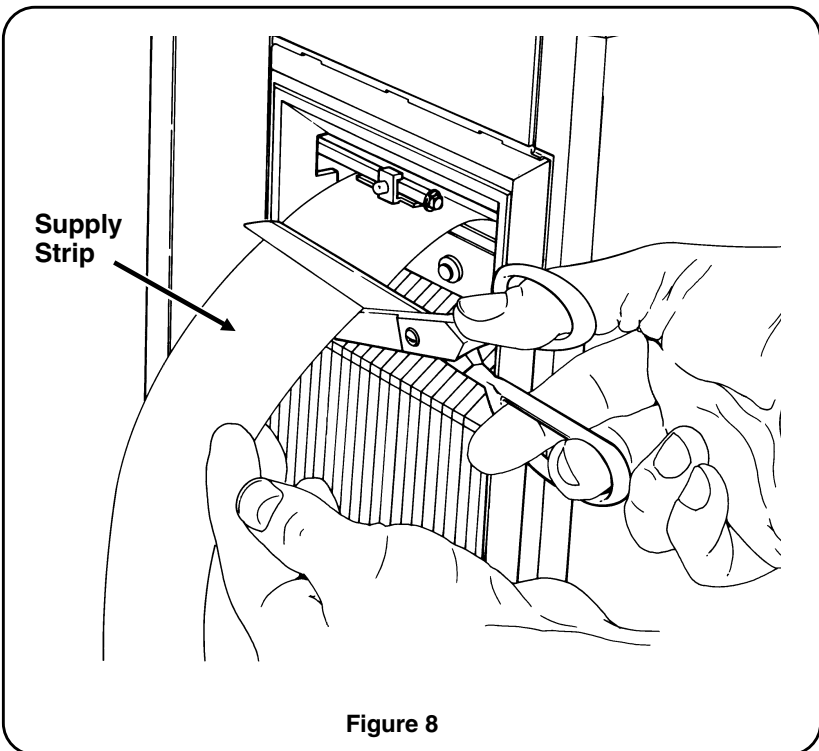

Figure 8
4. Cut the supply at the supply exit of the printer (Figure 8).